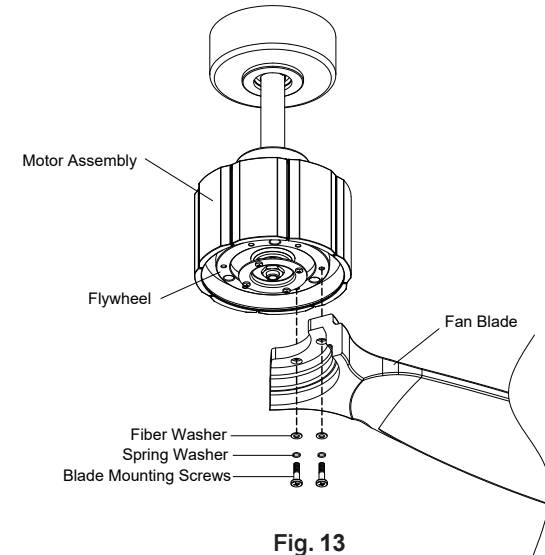

Fig. 13
**Step 1.** Attach the blade to the fan motor assembly using two fiber washers, spring washers and blade mounting screws (Fig. 13)
Repeat for the remaining fan blades. (Fig. 13)